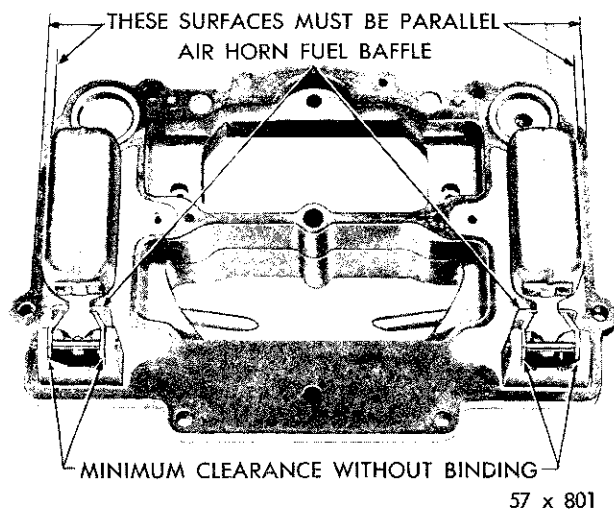

Fig. 30—Checking Float Alignment
(1) Sight down the side of each float shell to determine if the side of the float is parallel to the outer edge of the air horn casting, as shown in Figure 30.
(2) If the sides of the float are not in alignment with the edge of casting, bend the float lever by applying pressure to the end of the float shell with the fingers while supporting the float lever with the thumb.